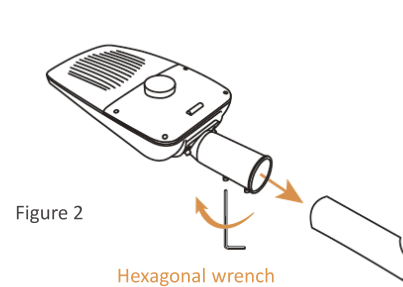

Figure 2
### ② Install the pole, as shown in Figure 2.